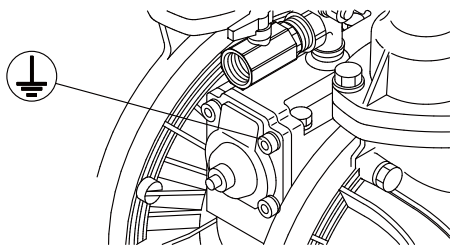

Figure 10
1. When installing the pump, be sure to connect the ground wire at the specified position. For the specified position for connecting the ground wire, See Figure 10.